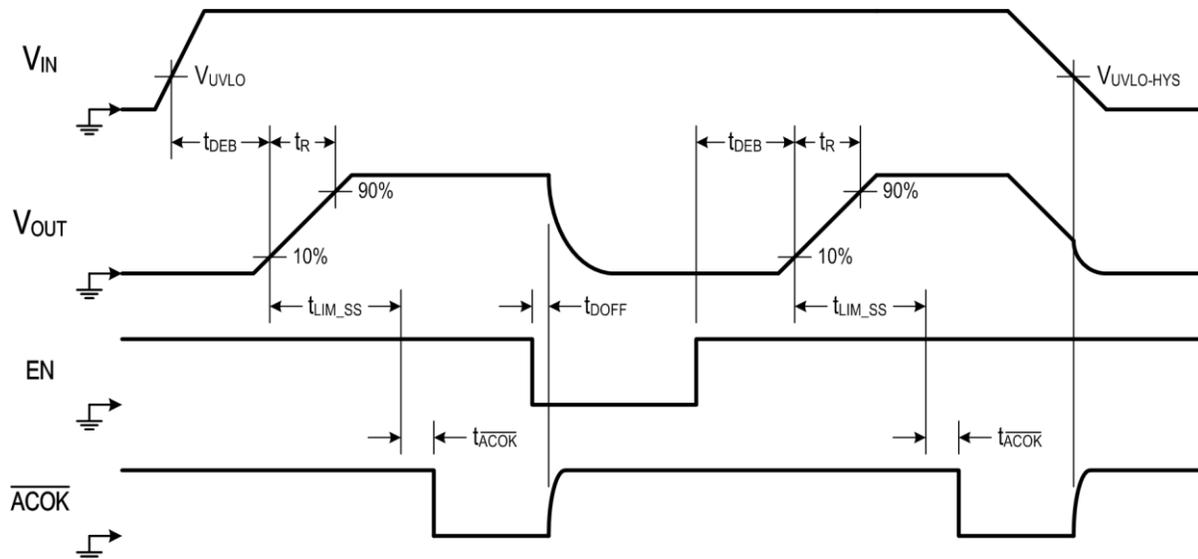

Figure 1. UVLO, Soft-Start and Turn-Off Timing Diagram
**Soft-Start (SS) Specifications (see Figure 1)**